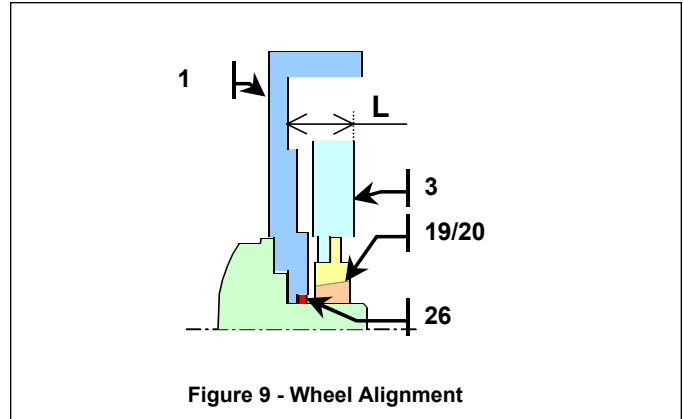

Figure 9 - Wheel Alignment
1. Check the shaft seal (26). Replace if necessary.
3. Insert the hub assembly (19), (20) into the center of wheel. **NOTE:** DO NOT tighten bolts (20A) to allow wheel assembly to slide freely on the shaft.
4. Using proper lifting equipment, slide the wheel (3) with its hub (20) assembly onto the reducer shaft.
5. Align the wheel (3) in the pump casing (1) as shown in Figure 9 and chart below.